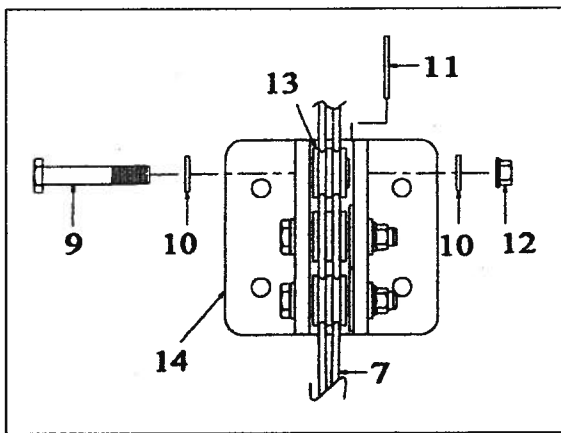

FIGURE 6 – PILOT AND COPILOT ENERGY ATTENUATING ROLLER BRACKET ASSEMBLY
3. Remove set screw (5) and jam nut (4). Lift seat high enough to clear bolt (1). Remove nut (8), washers (2), spacer (3), and bolt (1). Remove bracket (6).
4. Remove bolt (9, reference Figures 6 and 7), washers (10 and 11), and rollers (13) one at a time. Remove attenuating wire (7) from bracket (14 or 15).
5. Replace rollers (13) and bolts (9) if damage or corrosion is evident, or if rollers do not rotate freely on bolts.